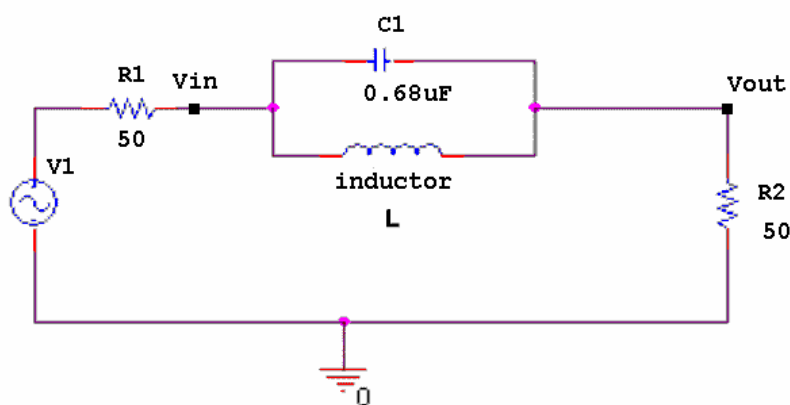

Figure B-1
*Using circuits to estimate inductance:* Now we will use a better method to estimate the inductance of our coil. In the circuit in figure B-1, V1 and R1 represent the function generator, R2 is a 50 ohm load connected to the function generator by a parallel combination of an inductor and a capacitor.
- Set up the circuit in figure B-1 on your proto-board. Use the capacitor and resistor you measured and the inductor you built. Be careful to make sure that the inductor is making contact inside the protoboard. Do not remove the inductor from the paper tube.